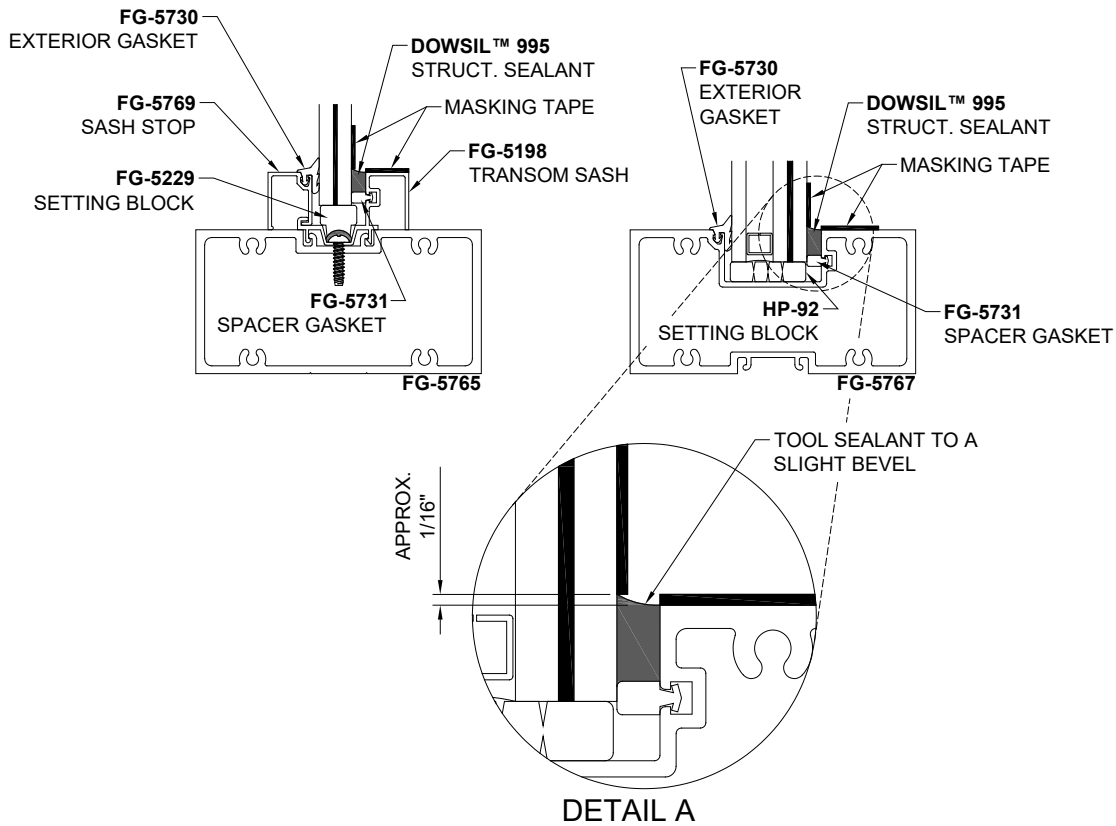

Figure 48: Wet Glazing Interior of Transom
- 14.3.2 Clean glass and Transom framing with isopropyl alcohol and mask off glass with 1" wide low-adhesion masking tape. Reference Figure 48, Detail A for masking tape application locations.
- 14.3.3 Fill cavity around full perimeter of D.L.O. with **DOWSIL™ 995** Structural Silicone Sealant, as shown in Figure 48; care should be taken not to leave any voids and eliminate air bubbles in sealant. Immediately tool, creating a finished joint with a beveled/curved joint surface as shown in Figure 48, Detail A.